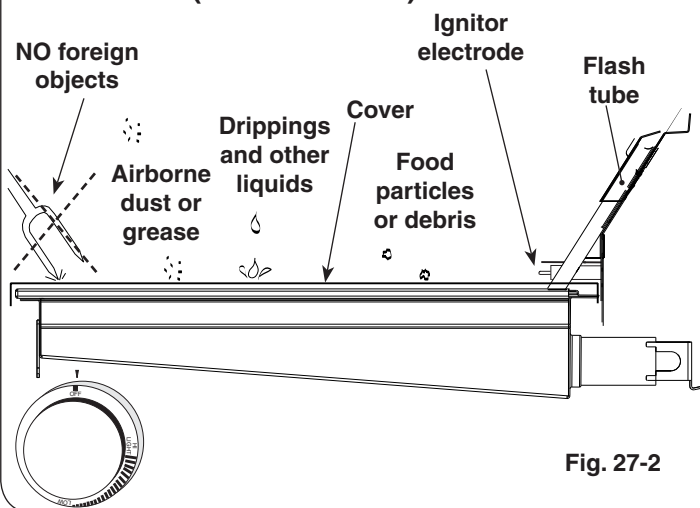

Fig. 27-2
- When not in use, **always** cover the infrared burner with the stainless-steel cover. This protects the burner from drippings (from other cooking), airborne particles, and foreign objects (Fig. 27-2).
- Do not strike or scratch the burner ceramic as it may chip, crack, or break (Fig. 27-2).